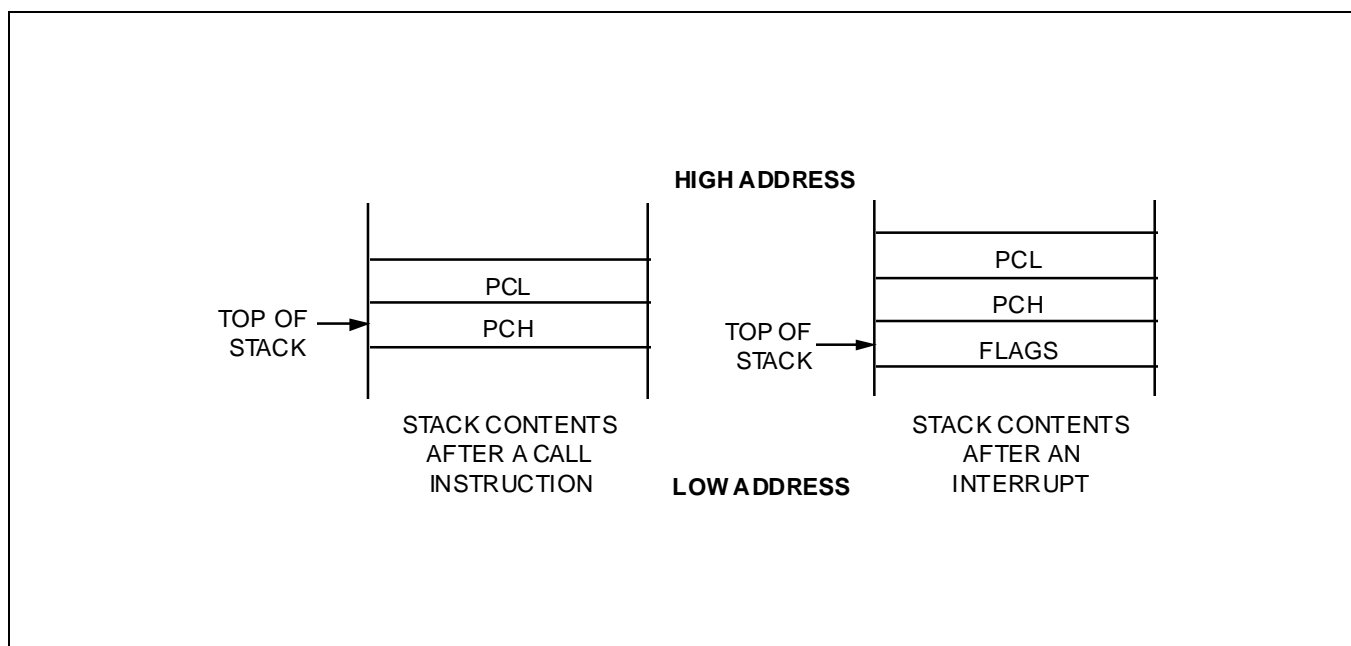

Figure 2–16. Stack Operations
The stack address is always decremented *before* a push operation and incremented *after* a pop operation. The stack pointer (SP) always points to the stack frame stored on the top of the stack, as shown in Figure 2–15.